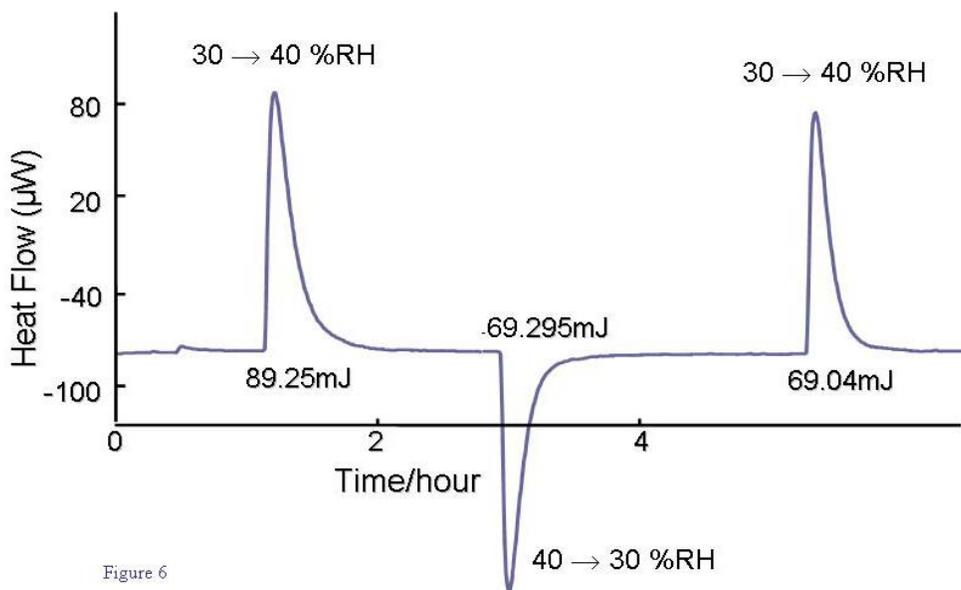

Figure 6: Lactose Amorphicity Determination by cRHp Microcalorimetry
Figure 6 contains the data from a lactose sample during a series of RH ramps over the range 30-40% RH (2). As humidity is initially ramped, the sample undergoes two simultaneous exothermic processes: absorption and crystallization. The sum of these processes is 89.25 mJ. During the subsequent ramp down from 40-30 %, the absorption is the only reversible process and the heat of absorption / desorption is measured as 69 mJ. This is confirmed in the final RH ramp from 30-40 %, in which the exothermic process is measured as 69 mJ, corresponding to only the heat of absorption. Hence the  $\Delta H_c$  is calculated as  $(89.25-69) \text{ mJ} = 20.25 \text{ mJ}$ . Normalized for the sample mass, this corresponds to an amorphous content of only 0.3%.